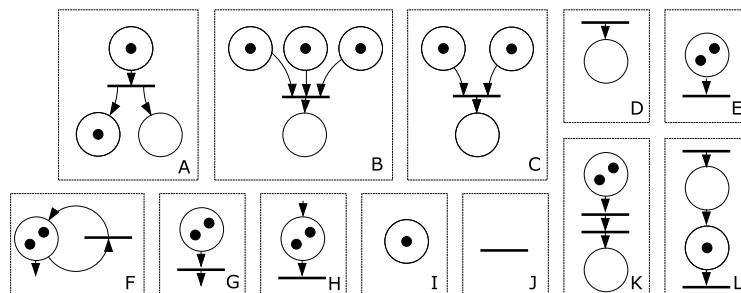

Figure 1
- Are the nets in Figure 1 Petri nets? For the ones which are Petri nets indicate: